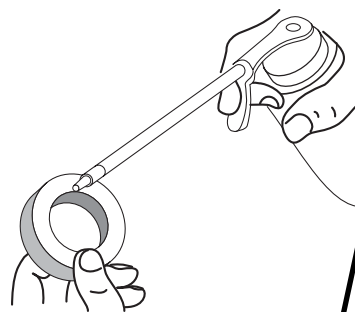

Fig. 28
4. Apply enough clean SAE 30 oil to lightly coat the filter (Fig. 28).